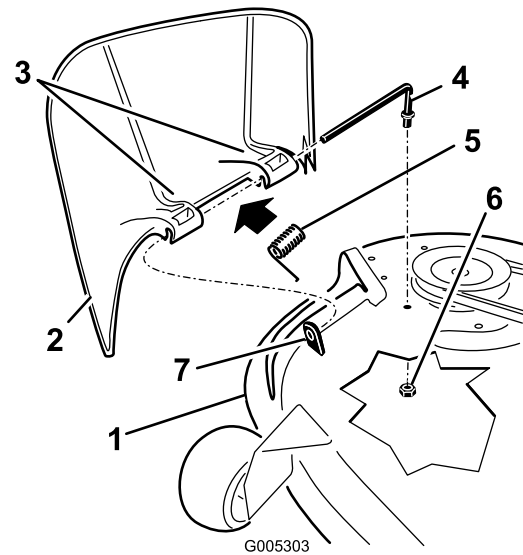

Figure 57
1. Remove the nut (3/8 inch) from the rod under the mower (Figure 57).
2. Slide the rod out of the short standoff, spring, and the grass deflector (Figure 57).
4. Replace the grass deflector (Figure 57).
7. Slide rod through the second grass-deflector bracket (Figure 57).
9. Secure the rear end of the rod into the mower with a nut (3/8 inch) as shown in Figure 57.